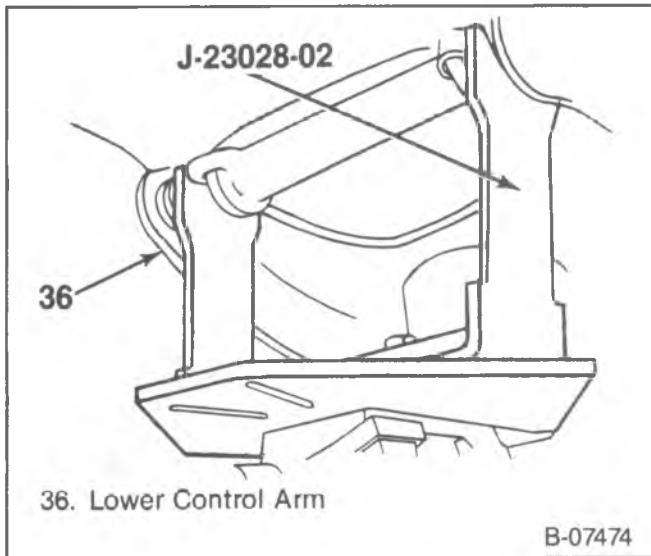

Figure 17—Removing the Coil Spring
4. Place J-23028-02 under the lower control arm shaft (50) as shown in figure 17.